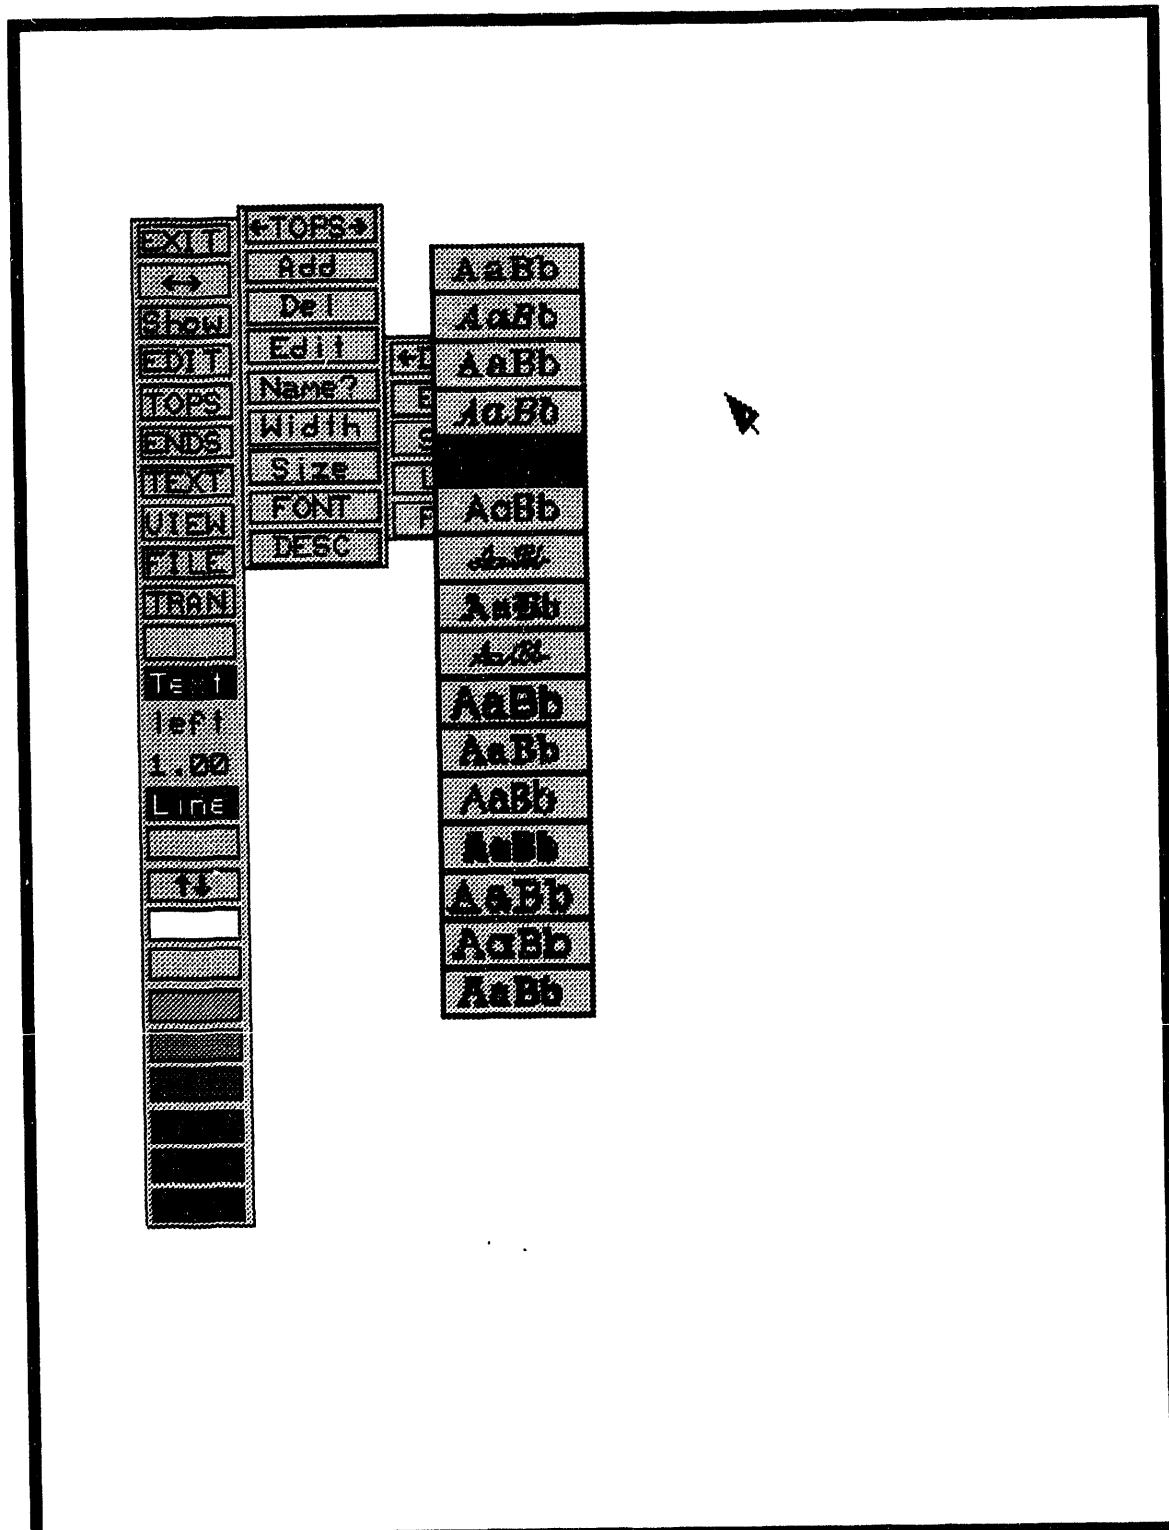

Figure 21. Font selection for event descriptions.
5.5.9.5 FONT. This option allows you to select the font type for the event descriptions. When you select this option, an additional pop-up menu will be displayed (see Figure 21). Select the desired font type by positioning the cursor over the font and pressing the left mouse button. You must select a font (or cancel) to continue. If the font type is changed, the event descriptions will be redisplayed.